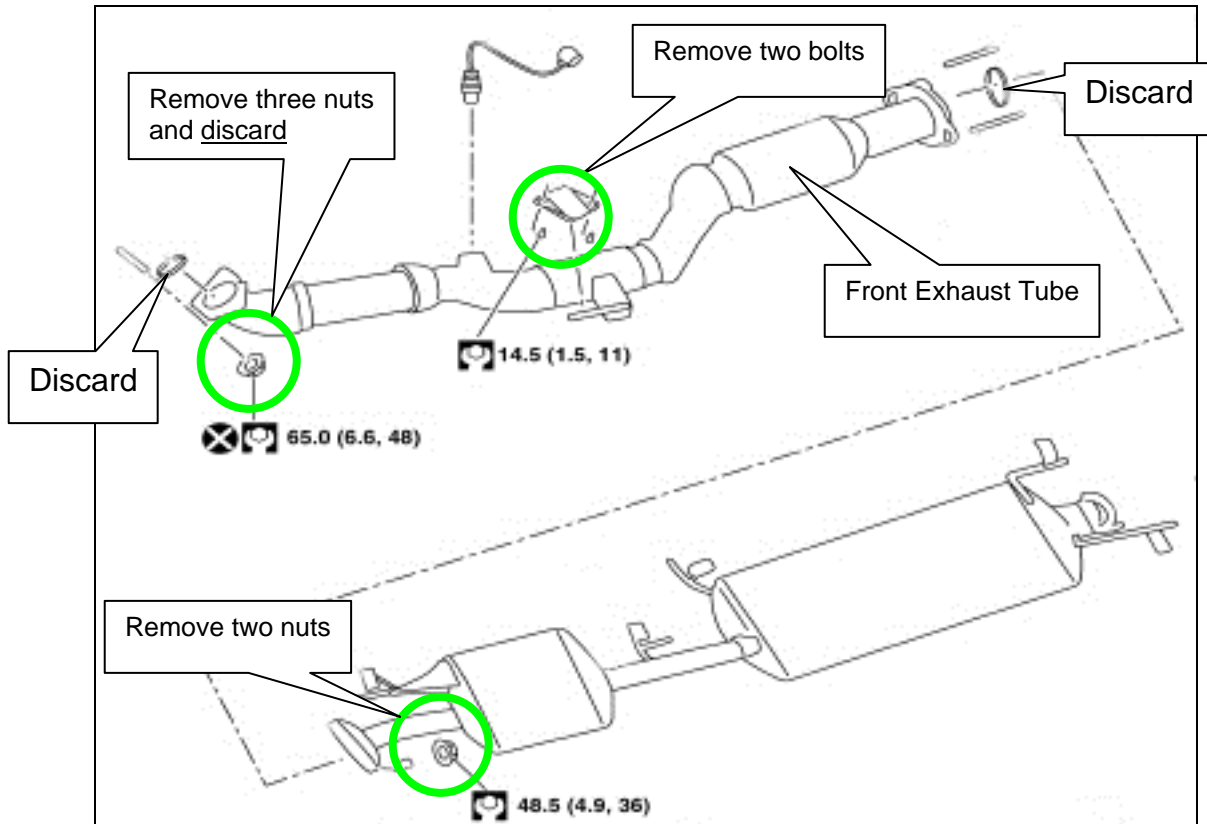

Figure 24
- Discard two exhaust o-ring gaskets shown in Figure 24.
- Discard three exhaust nuts shown in Figure 24.